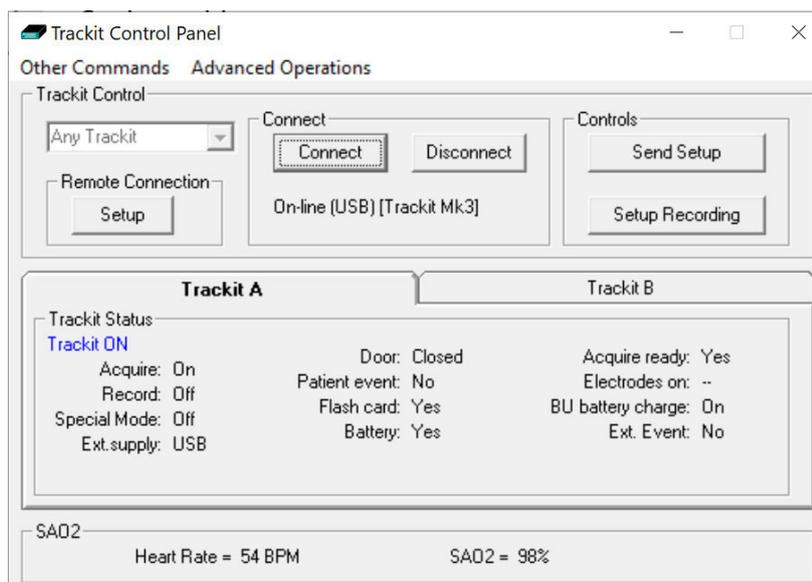

Figure 22: Display of SaO₂
- Observe the display of SaO₂ and pulse rate on the Trackit Control Panel. Probe off, and XPOD disconnect information is displayed. See Figure 22.